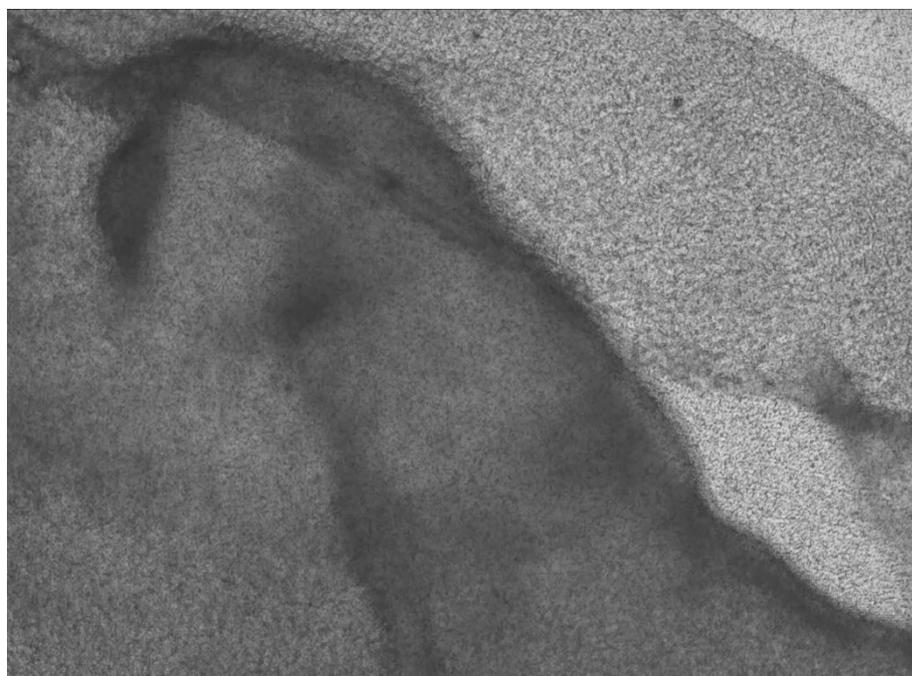

Figure. S4 Transparency of hCLE sheet with various diameter.
8. **Figure. S4.** Transparency of hCLE sheet with various diameter.